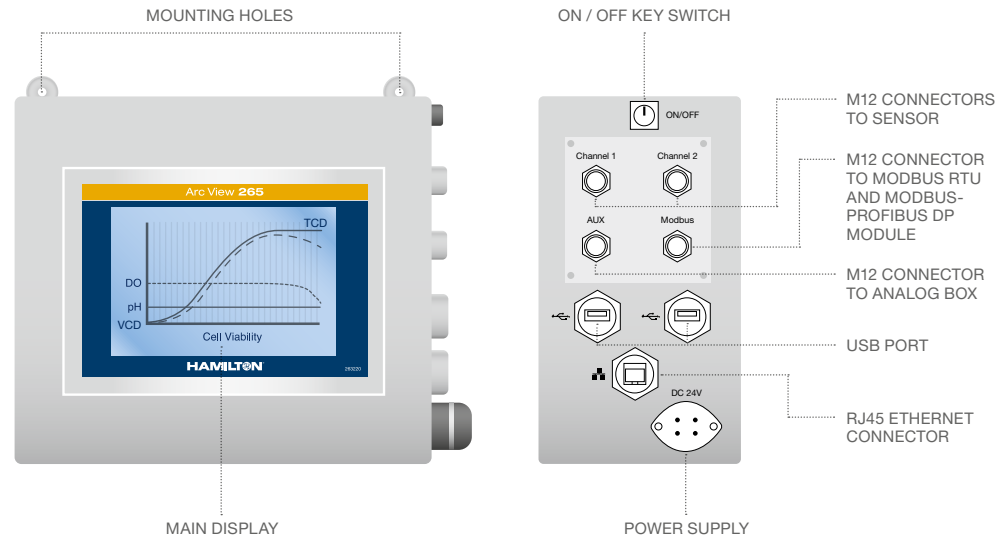

Figure 6: Arc View Controller 265, front and side panel.
The Arc View Controller (Figure 6) allows recording and plotting the measurements of up to four connected Sensor Units. It stores the measurements in Culture Files and the calibration data of all Sensor Units that have been connected. Hamilton Arc sensors, especially pH and dissolved oxygen sensors, may be visualized and recorded in parallel via a wireless connection. Most connection ports are available on the right hand side panel (Figure 6). The Arc View Controller 265 holds two M12 plugs on the side panel for the connection of two Sensor Units. They are labeled as Channel. The Arc View Controller 465 is a four channel Controller and has two more M12 plugs for connecting additional Sensor Units. The AUX and Modbus M12 connectors, and the Ethernet plug may be used to connect the Arc View Controller to the process control system. The USB ports may be used to connect a USB stick and export the recorded log files. It also serves to connect the Arc Wireless Converter MB (Ref 243498) or BT (Ref 243499) required to log Arc sensors.
5. Mount the power supply and connect it to the Arc View Controller (Figure 6). The Controller will automatically start up.
6. Switch off the Arc View Controller using the Key Switch (Figure 6).